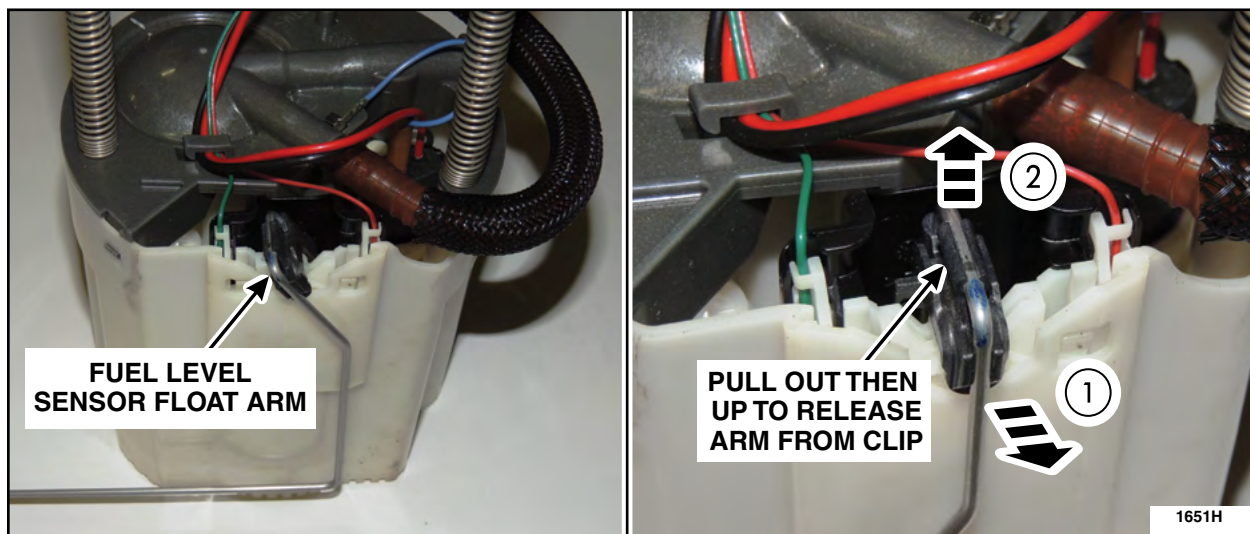

FIGURE 1
2. Disconnect the float arm from the fuel level sensor. See Figure 1.
11. Install the float arm onto the fuel level sensor. See Figure 1.